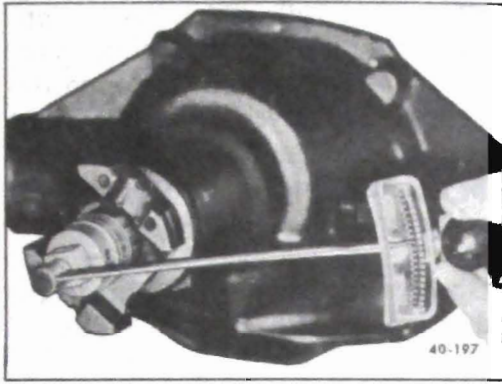

Figure 40-198 - Checking Pinion Preload
16. Install washer and new self-locking pinion nut on pinion. Tighten nut to remove pinion end play. When end play is removed, alternately tighten nut and check pinion preload until a torque of 20-25 lb.in is required to rotate the pinion with new bearings and seal installed or 10-15 lb.in. when used parts are reinstalled. See Figure 40-198.
3. Rotate differential case assembly several complete turns to seat bearings. Check bearing preload using an inch pound torque wrench connected at pinion nut. Bearing preload should read 35-40 lb.in. of rotating torque with new bearings or 20-25 lb.in. of rotating torque with reused bearings. See Figure 40-198. If preload is not according to these specifications, increase shim thickness on each side .002" for each additional 10 lb.in. preload desired, or decrease shim thickness .002" on each side for each 10 lb.in. preload to be subtracted.